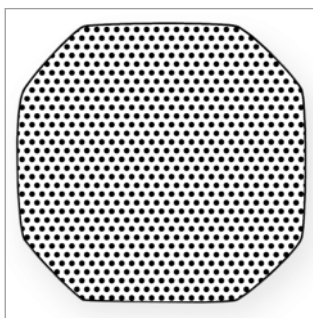

Figure 8
- Remove your OrthoPak® when you bathe, shower or swim. You should also either remove the electrodes or cover them with the additional adhesive cover patches provided, as shown in Figure 8 if you prefer to leave the electrodes attached to the skin during bathing.